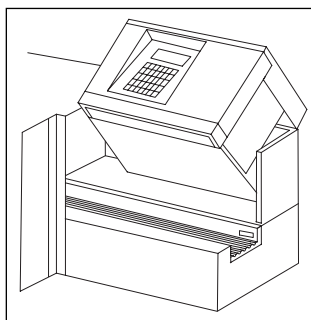

Figure 9.6
3. Move the display face back into place and tilt back right half of instrument (Figure 9.6).